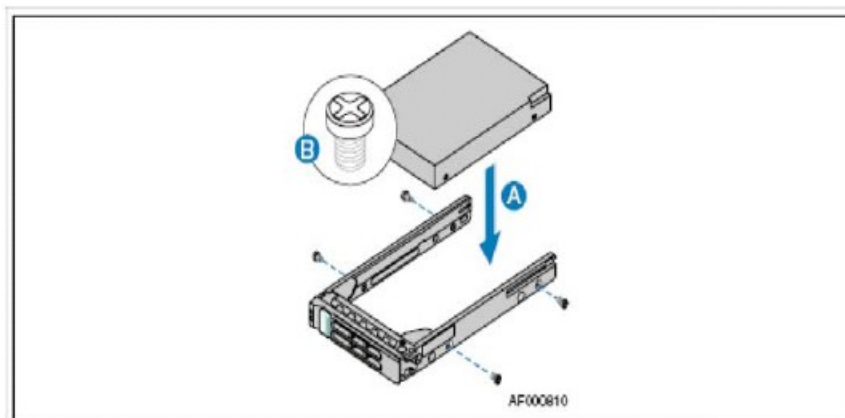

Figure 24: Attaching a Hard Drive to the Drive Tray
1. Install the new hard drive in the drive tray ("A" in Figure 24: Attaching a Hard Drive to the Drive Tray) and secure the hard drive with the four screws (Inset "B" in Figure 24: Attaching a Hard Drive to the Drive Tray), that come with the drive tray.